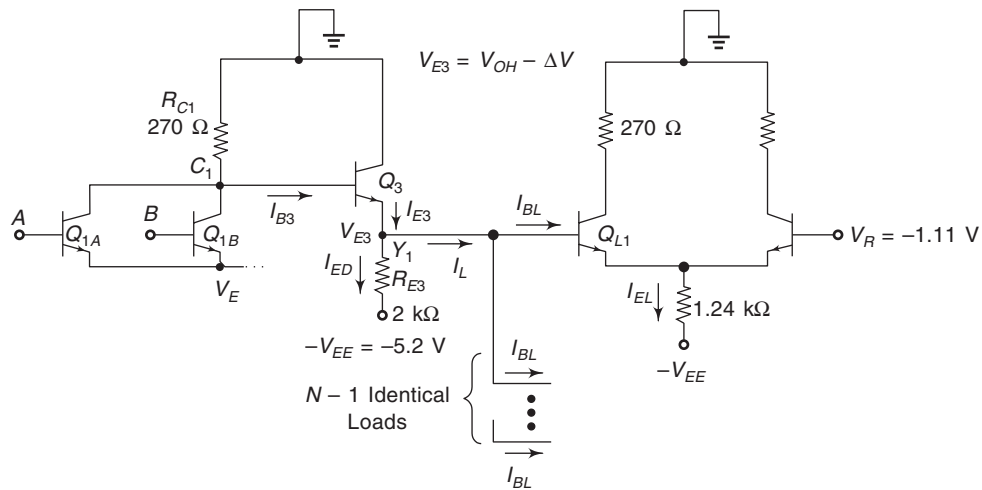

Fig. 9.42
26. Calculate the static fan-out for the circuit of Fig. 9.42. Assume that the NOR output voltage can drop from its nominal (HIGH) value of -0.7 V by $\Delta V = 50$ mV. Use $\beta = 100$.